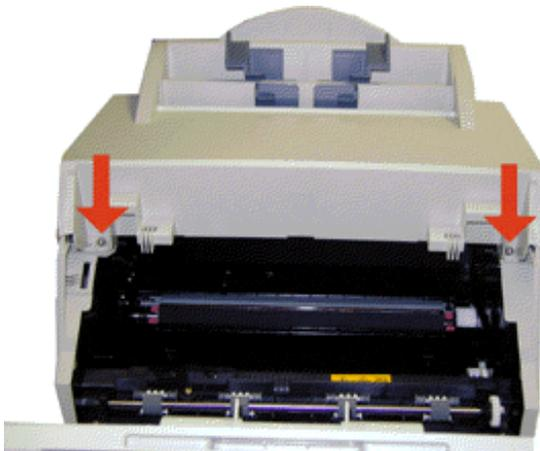

FIGURE 33
1. Remove the two top silver screws. The top cover will come loose. Lift up and remove the top cover. See Figure 33